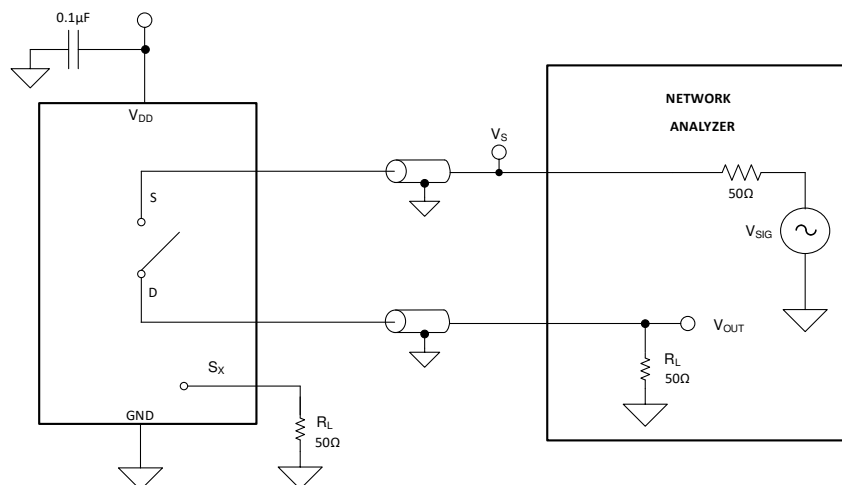

図 6-7. Off Isolation Measurement Setup
Off isolation is defined as the ratio of the signal at the drain pin (D) of the device when a signal is applied to the source pin (S_x) of an off-channel. Figure 6-7 shows the setup used to measure, and the equation used to calculate off isolation.